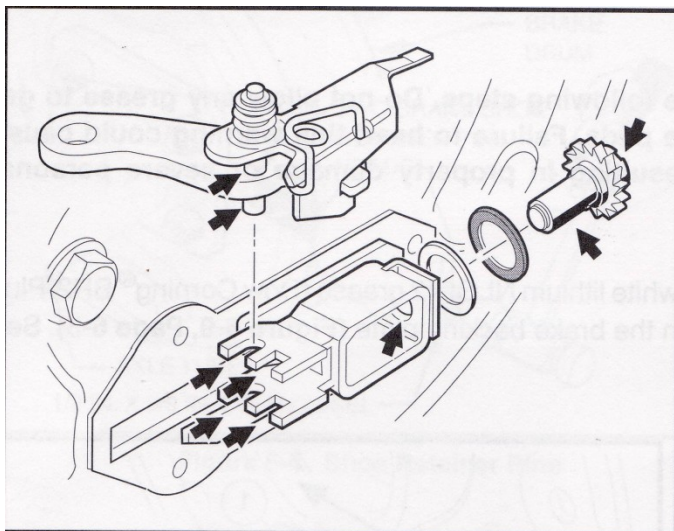

Figure 6-11
5. Use a small brush to carefully apply a light coat of white lithium grease (Dow Corning BR2-Plus or equivalent) on each end of both brake shoes and into the slots in the brake shoe mounting block as show (Figure 6-11). See preceding WARNING.
6. Use a small brush to carefully apply a light coat of white lithium grease (Dow Corning BR2-Plus or equivalent) to the brake adjuster assembly, adjust wheel shoe slots, and the shaft of the adjuster wheel as shown (Figure 6-11). See preceding WARNING.